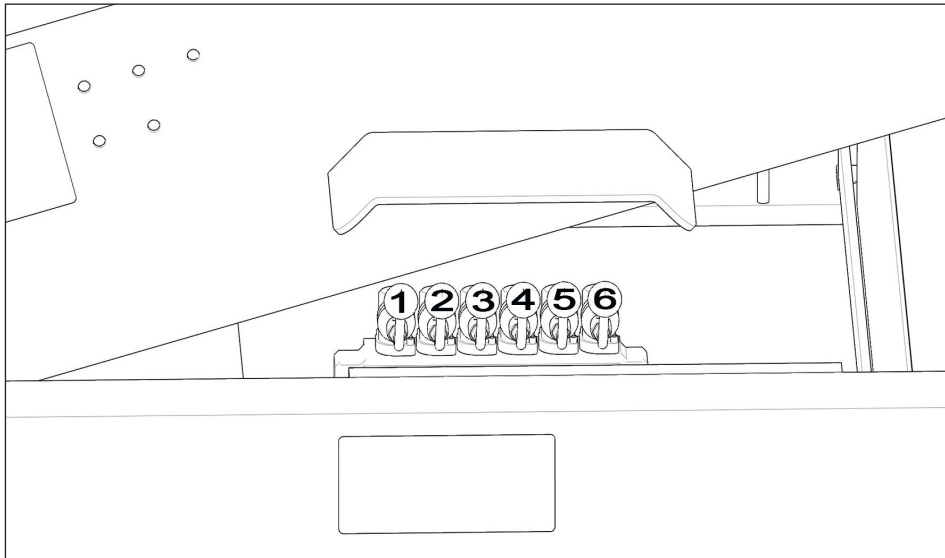

Figure 5.6 - Left Hand Side Conveyor Levers
2. Use lever (2) in Figure 5.6 to place the tail conveyor in the transport position.
3. Use Lever (1) in Figure 5.6 to fold the tail conveyor.